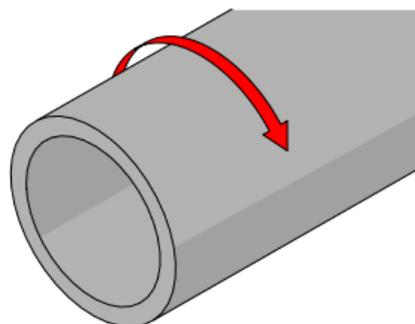

Fig. 5 - Circumferential scanning
**Circumferential** Direction of scan travel is around the circumference of the pipe/tube (*Fig. 5*).